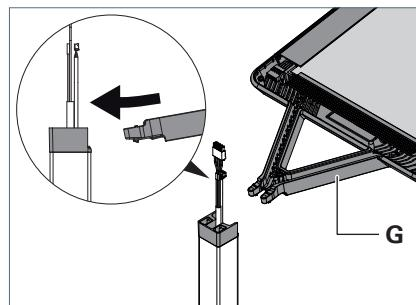

Fig. 3: Mounting the luminaire head.
- ▶ Insert the supporting arm **G** of the luminaire head tilted downwards slightly to the stop into the adapter, see Fig. 3.